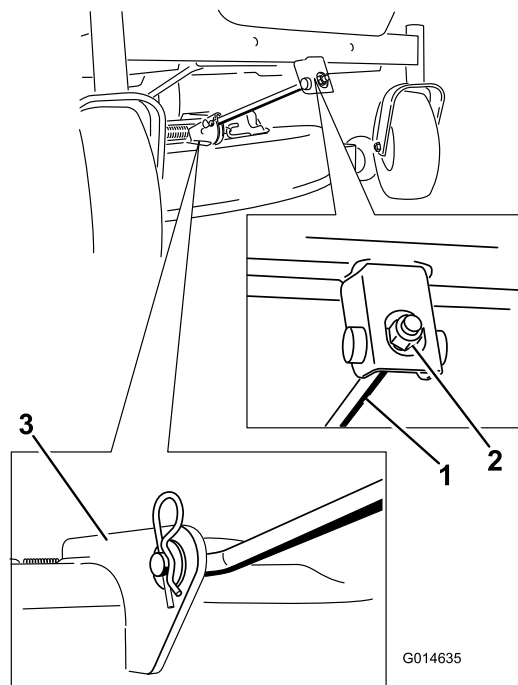

Figure 73
5. Remove the hairpin cotter from the front support rod, and remove the rod from the deck bracket (Figure 73).
- Attach the front support rod to the mower deck with the clevis pin and hairpin cotter (Figure 73).